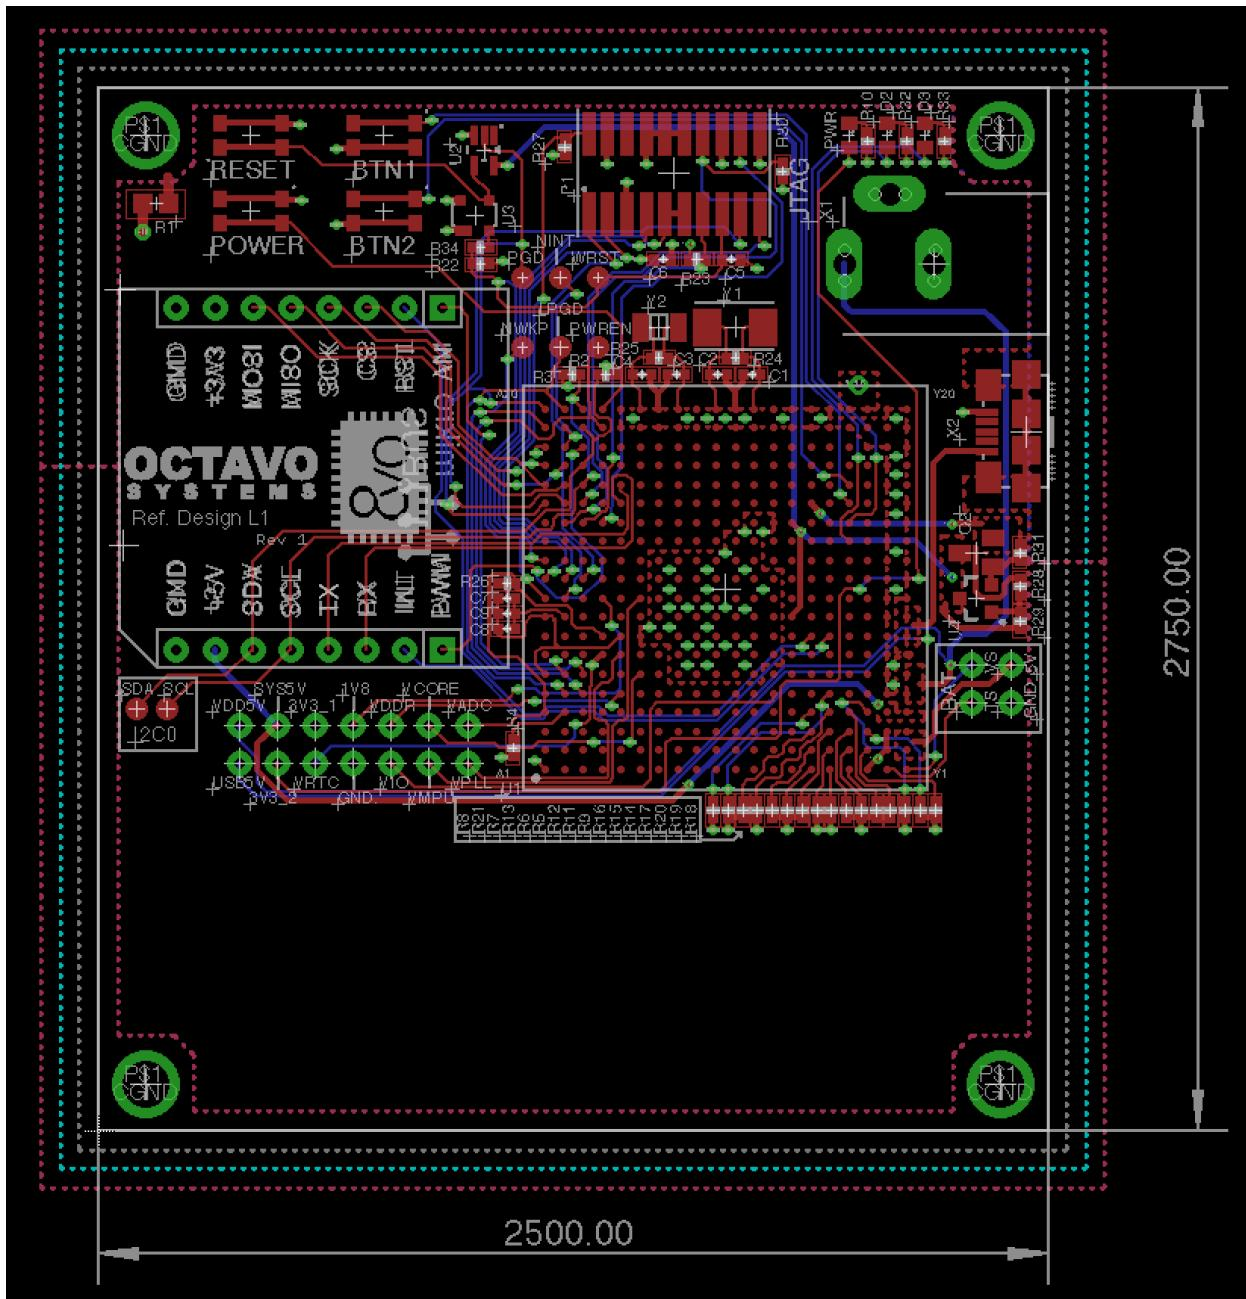

Figure 84 Lower end of PCB extended by 750mils
- Extend the lower end of the PCB boundary and move the ESD rings by 750mils to make space for new components that will be added in this lesson. After the extension, the layout should look similar to Figure 84.